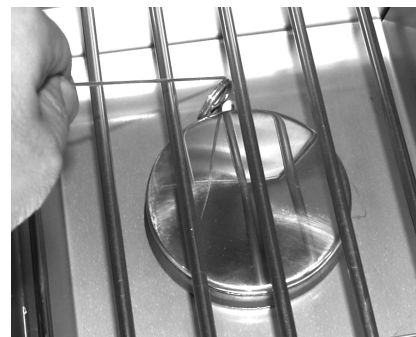

Fig. 21-2 Manual lighting
2. Insert either a burning long-barrel butane lighter, a burning long-stem match, or a burning match held by a wire extension holder through the cooking grid opening to the burner (Fig. 21-2). Hold the flame against the edge of the burner.
4. If the burner does not light within five (5) seconds of turning the control knob, **immediately depress the knob and turn the valve to OFF**. **WAIT FIVE (5) MINUTES** before repeating steps 2 through 4 of the **MANUAL LIGHTING** instructions.